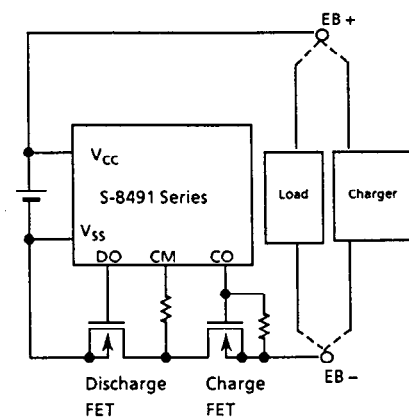

Figure 4
- (Refer to Figure 4, Battery Protection IC Diagram)